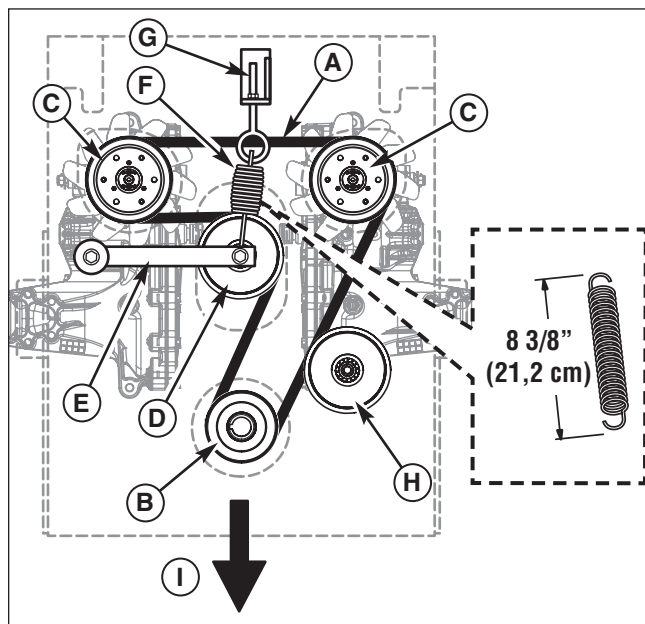

Figure 38. Hydraulic Pump Drive Belt Replacement
4. Loosen the nut on the spring anchor eyebolt (G, Figure 38) to release the majority of the belt tension. Use caution and remove the nut to completely release the tension.